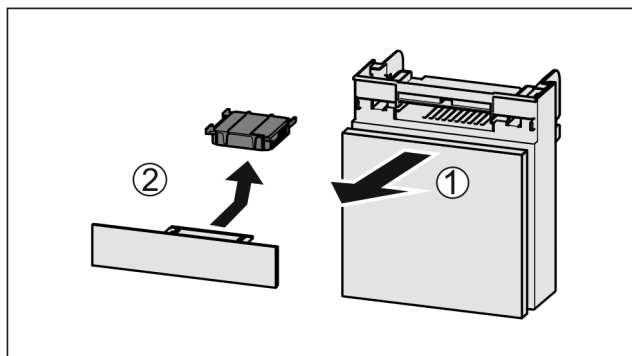

Fig. 156
- Pull out the compartment Fig. 156 (1).
- Remove the carbon filter Fig. 156 (2).